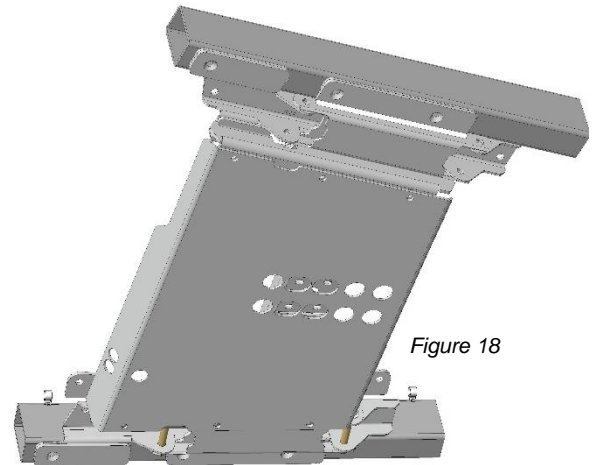

Figure 18
80. Install belly skid plate. use 3/8 flat head cap screws and flange nuts from hardware kit 118 and/or 120, and spacer plates as needed (see figure 18).